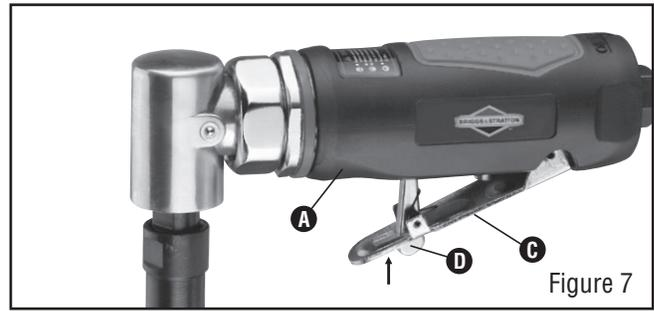

Figure 7
Push the lever (D) forward and press down on the trigger (C) to start the tool (A). (See Figure 7)